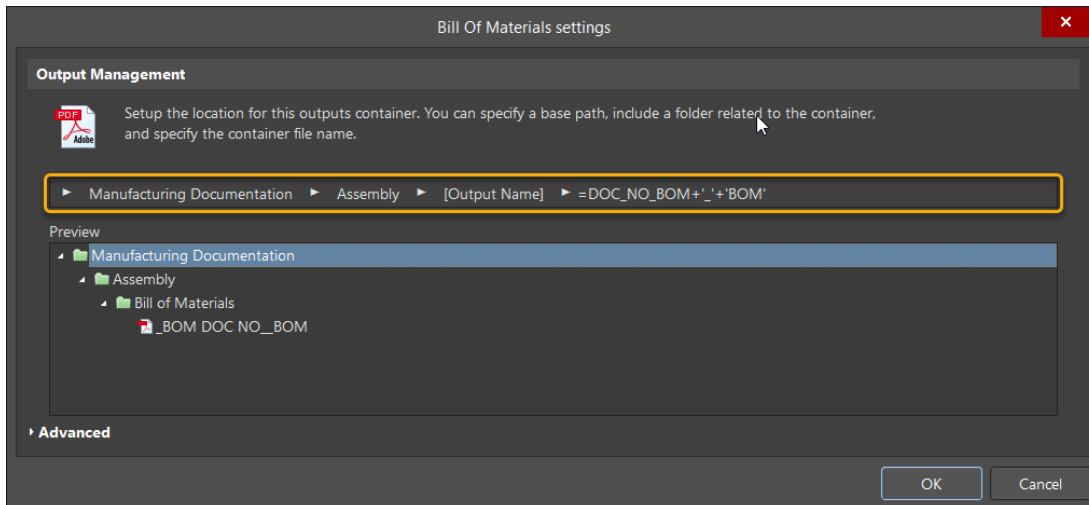

Figure 16. Bill of Materials Output Container settings dialog
62. Double-click on the Bill Of Materials Output Container or select it and click on **Change** to see how the directory structure is setup and how the output file naming is configured. The area just above the Preview area allows configuration of the final output path, Figure 16.
- Find the *Preview* area. Here you will see the file name and directory structure and location of where the file will be generated within the project, see Figure 16.